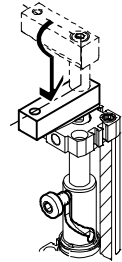

Bild 3
- swivel-linear movement of 90° in an anti-clockwise direction (Bild 3)